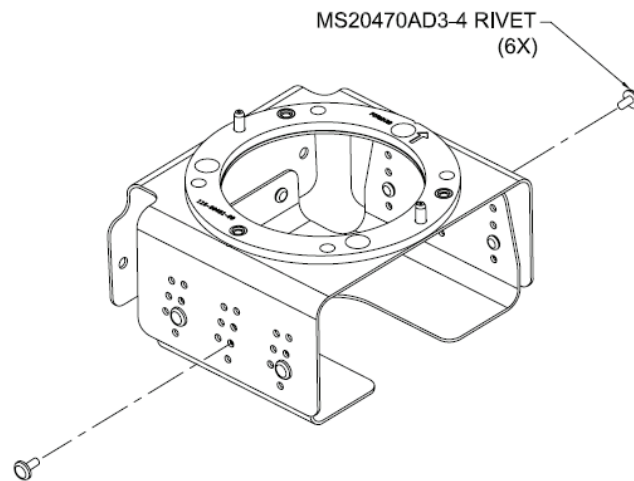

Figure C-12 Rivet shifted Magnetometer Mount
7. With the GMU 44 mount setup for installation in the right wing, shift the bracket to the minus 2 degree setting and rivet it in place using six 1/8" button head rivets as illustrated in Figure C-12.